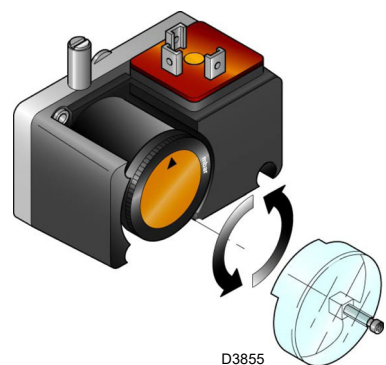

Fig. 30
- Adjust the minimum gas pressure switch (Fig. 30) to the start of the scale.
- Adjust the maximum gas pressure switch (Fig. 30) to the end of the scale.
Adjust the minimum gas pressure switch (Fig. 30) after having adjusted the burner, the gas valves and the gas train stabiliser. With the burner operating at maximum output: